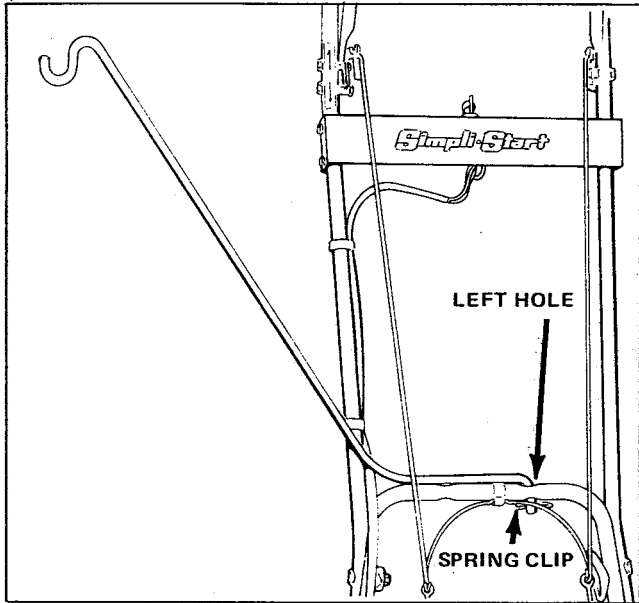

Figure 10. Installing Bag Support
6. Insert the leg of the bag support rod through the left hole in the handle crossbar, and attach it with the spring clip provided through the hole in the rod. (See figure 10). Make sure bag support rod is underneath control rod.